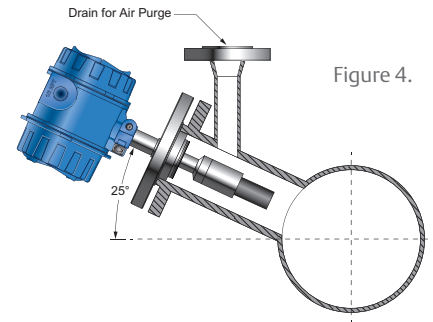

Figure 4.
- T-piece vertically inclined at an angle of 25° (Figure 4)